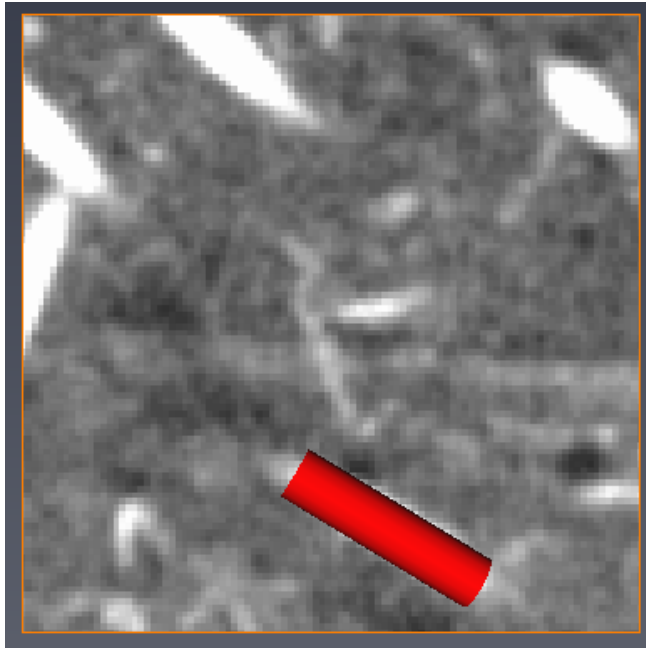

Figure 10.8: Visual Cylinder Radius Setup
4. Set the radius of the cylinder template. The slice can now be changed to see the cross section of the fiber on which the visual template has been set. Left-click on the visual template and move the mouse to interactively change the cylinder radius until it fits the cross section on the slice (see Figure 10.8).